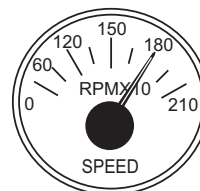

Figure 15. Engine Tachometer Gauge
11. The **tachometer gauge** (Figure 15) will indicate the speed of the engine in **RPM**. Under normal operating conditions this speed is approximately 1,800 rpm.